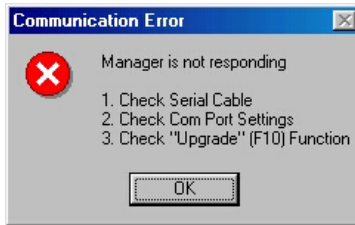

Figure 26 Communication Error
If a Communication Error box appears when trying to scan the system – see Figure 26. Check the following:
- The Firmware Upgrade label (F10) appears on the screen. See Figure 26.